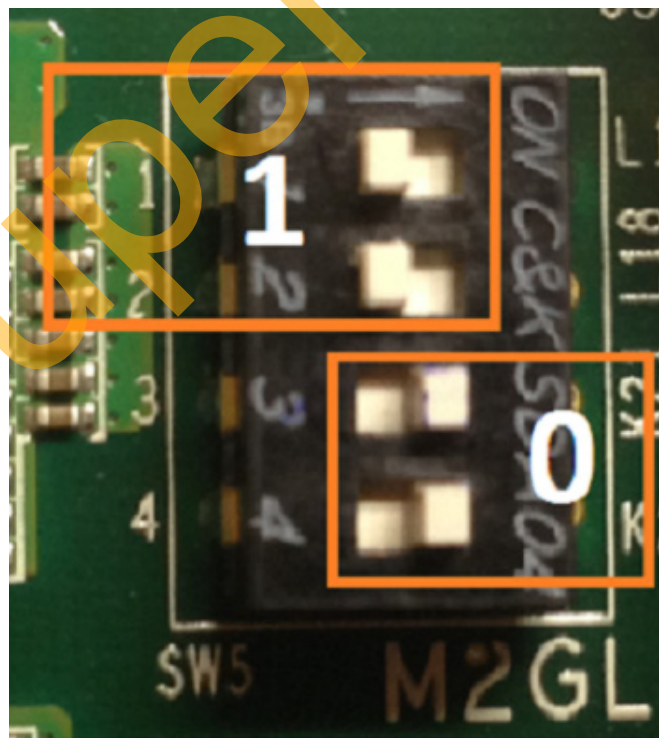

Figure 9 • Toggling DIP Switches
3. To wake-up the device from F*F mode, toggle DIP switches 1 and 2 to 1 position (OFF) **AND** toggle DIP switches 2 and 3 to 0 position (ON) as shown in Figure 9. Upon this setting, the device exits from F*F mode. Observe that the LEDs start to toggle again indicating that the device exited from the F*F mode.
Note: The DIP switches combination shown in Figure 9 on page 11 constantly keeps the device in active mode, since that combination is configured to wake-up the device. Before proceeding to the next step, ensure that the combination setting of the DIP switches is different than what is shown in Figure 9 on page 11.